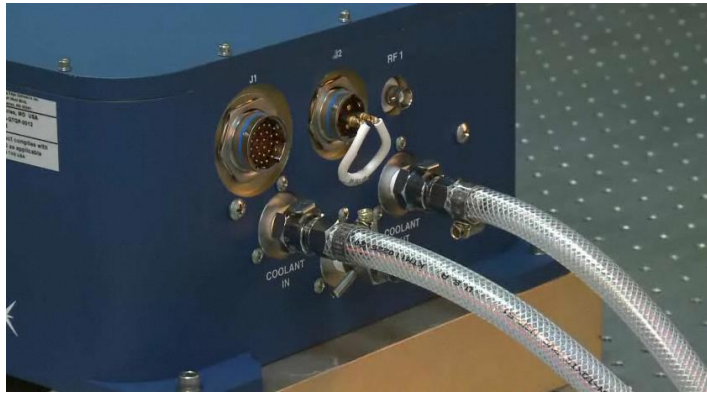

Figure 4-6. Plumbing Connection
1. Connect plumbing. As shown in Figure 4-6, push the barb fittings of water hose connectors gently into the coolant in and coolant out ports by following the flow path direction. Wetting the o-rings of the quick disconnect fittings